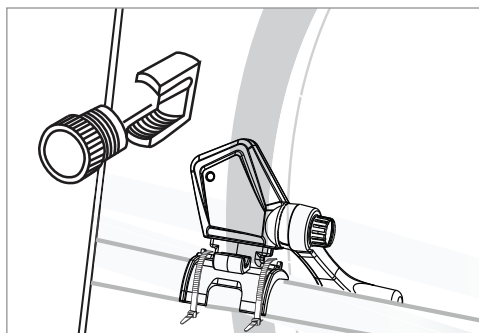

Figure 4
3. Using this sensor placement as a guide, position the wheel magnet in the approximate area that it will pass the sensor arm on the inside of the chainstay. The wheel magnet is tightened to the spoke by threading it into the magnet bracket that sits behind the spoke (fig. 4).